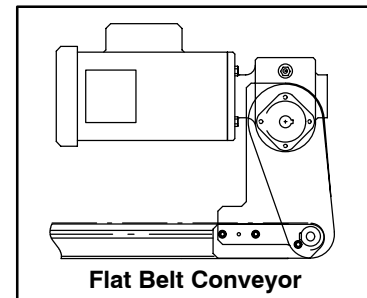
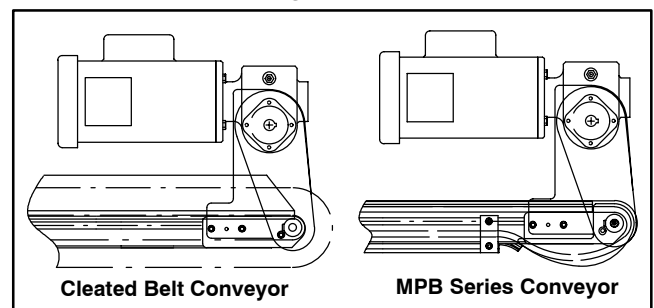

Figure 2
Figure 3
<p>Gearmotors must be mounted as shown in Figures 2 and 3.</p> <p>Failure to do so creates pinch points which can cause severe injury.</p>
**NOTE:** Gearmotor position on Flat Belt conveyors shown in Figure 2. Gearmotor position on Cleated Belt and MPB Series conveyors shown in Figure 3.